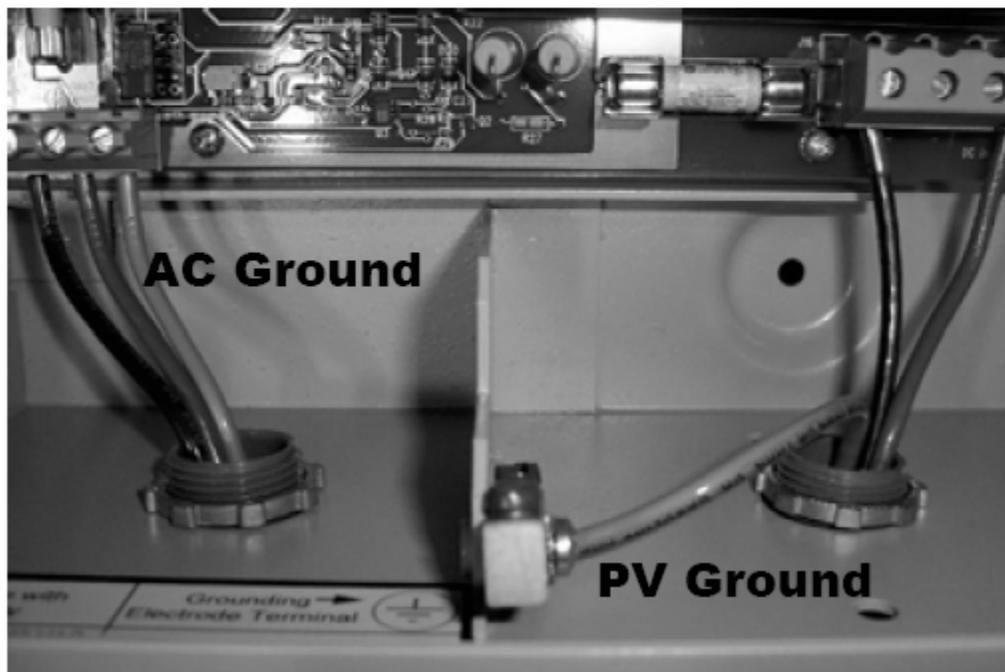

Figure 6: AC and PV Grounding
- ◆ A single point ground connection is located in the lower right hand side of the SunPower Inverter cabinet. The PV panel grounding wire is terminated there. The AC ground connection is terminated next to the Line and Line 2/Neutral connections on the circuit board. The PV ground is bolted to the cabinet with a ¼- 20 bolt. (Refer to Figure 6.)